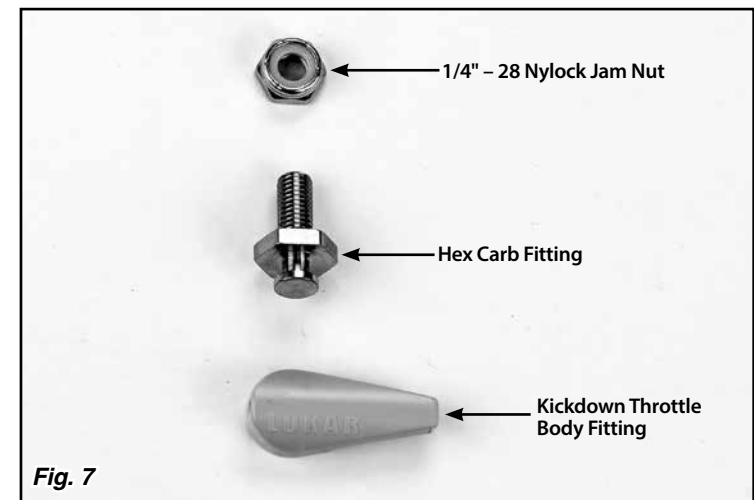

Fig. 7
Step 9: The tear drop will be attached to the throttle arm by the hex carb fitting. Separate the hex carb fitting from the kickdown throttle body fitting as shown in Fig. 7. Install the tear drop with the hex carb fitting and the 1/4"-28 nylock jam nut onto the throttle arm. Hook the springs to the tear drop and tighten the nylock jam nut. Fig. 8 Then, back the nut off just enough so the tear drop can rotate freely.